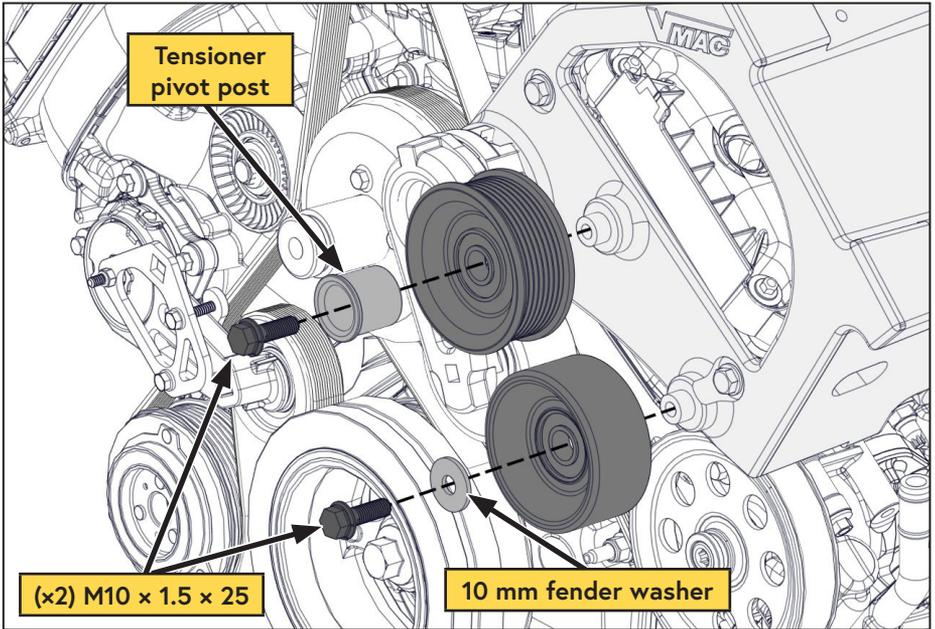

Figure 19 — Installing idlers
- Install the idlers and tensioner pivot post onto the bracket (Figure 19).